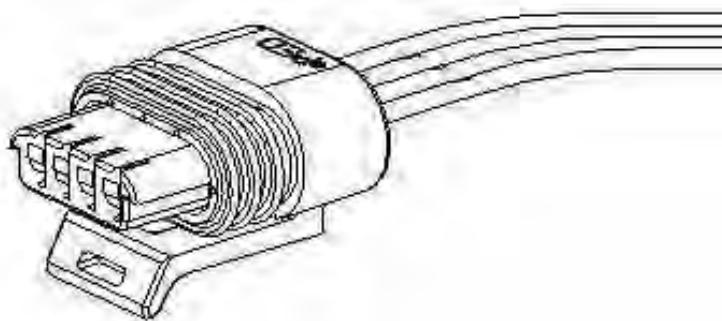

Figure 66
n. Visually verify the terminals are fully seated in the connector housing. The contacts should be recessed in the connector housing and shown in Figure 66.